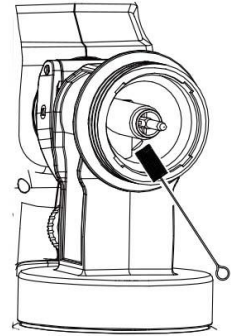

Fig. 21
13. Thoroughly clean all parts, taking special care when cleaning the interstices of the needle (Fig. 21).